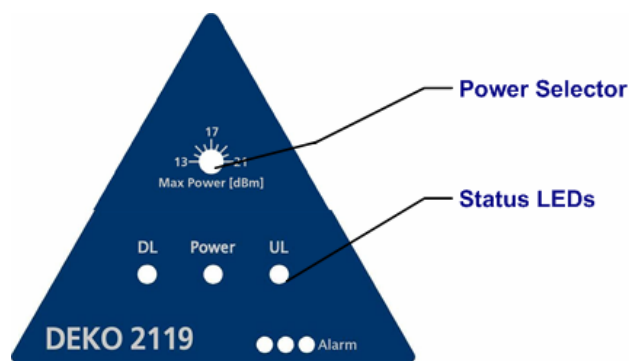

Figure 6: Mini-Repeater – Indicators Panel
3. When the unit is powered on, the front panel shows the built-in test procedures: the LEDs (DL, Power, UL) turn from Orange to Red to Green (see Figure 6)